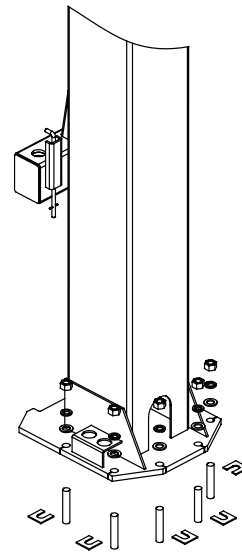
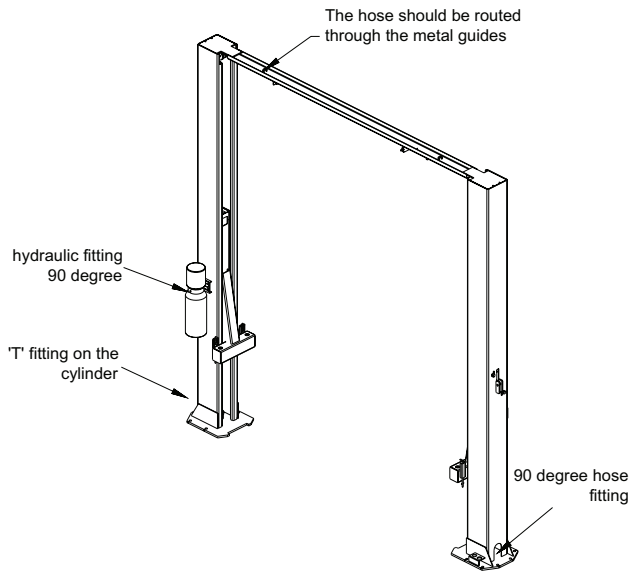
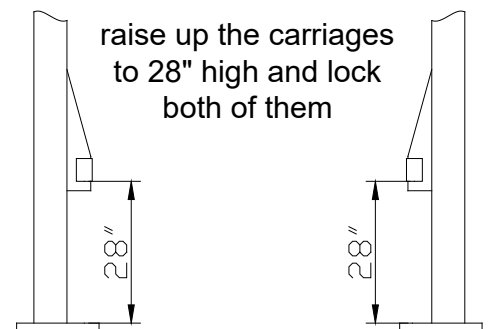

Fig. 2
Fig. 6
Fig. 8
5. **Be sure to clean all dust from hole.** (fig. 2).
- 5) Using a level, check column for side-to-side plumb and front-to-back plumb. If needed, use horseshoe shims provided by placing shims underneath the base plate and around the anchor bolt. This will prevent bending the column base plate (Shim thickness should not exceed 1/2"). Thread the 3/4" nuts onto the anchor bolts down to the column base plate, however do not tighten at this time. (Fig.2) **NOTE: Do not use impact wrench.**
- 12) Install the 90-degree hydraulic fitting on the power unit. Connect the short hydraulic hose to the "T" fitting at the base of cylinder in the mainside column and to the power unit. Then run the long hose through the columns and overhead cross beam. Connect the hose to the fitting on the base of each cylinder. (Fig. 6- 7 and diagram Fig. 2)
13) Raise the carriages (approximately 28" from the ground) so that they are resting on the first safety lock position (Fig. 8). Connect the equalizing cables as shown in the cable diagram. **NOTE:** (See Fig. 9-10 and diagram Fig. 2)